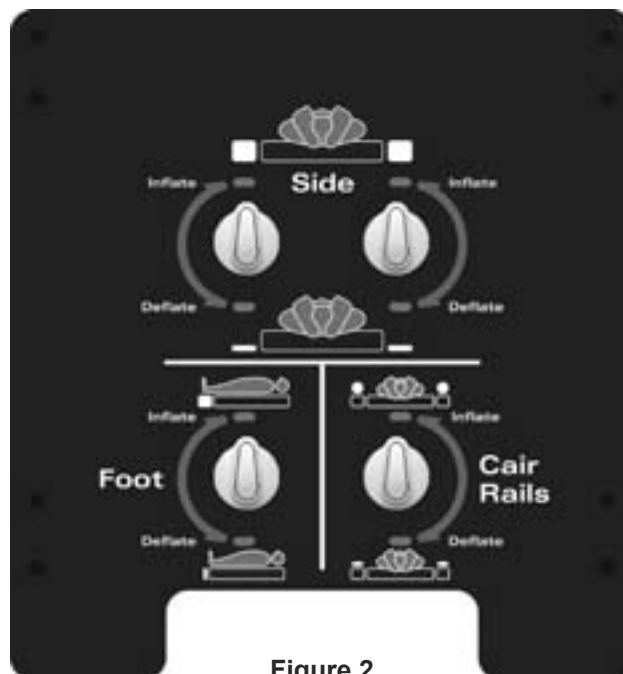

Figure 2
- If the therapy pad is not already on the mattress, attach it via the longitudinal zippers to the mattress. **Note:** This will require threading the hose set through the control window opening on the therapy cover located on the mattress side at the patients left foot. Also attach the snaps around the control panel opening from the therapy cover to the mattress control panel in four (4) places so that the control panel is not obscured (Figure 2).
- The CairRails air bolsters can be inflated or deflated as required. Locate the control knob (Figure 2) on the lower right of the control panel on the mattress. Next, inflate/deflate the CairRails by moving the control knob to the up (inflate) or down (deflate) position.
6. Inflate the extension foot cells by turning the lower left knob on the mattress control panel (Figure 2) up. After 2-5 minutes the cells will inflate. Leave the knob in this position to maintain inflation.
For the Arise® 1000 EX mattress, the control unit can be disconnected from the mattress as the 3" foam base will continue to support the patient. If the Bari10A bed frame is to be reduced in width for transport it may be necessary to deflate the CairRails. This can be done at the mattress control panel (Figure 2, pg 10) by turning the lower right control knob down.